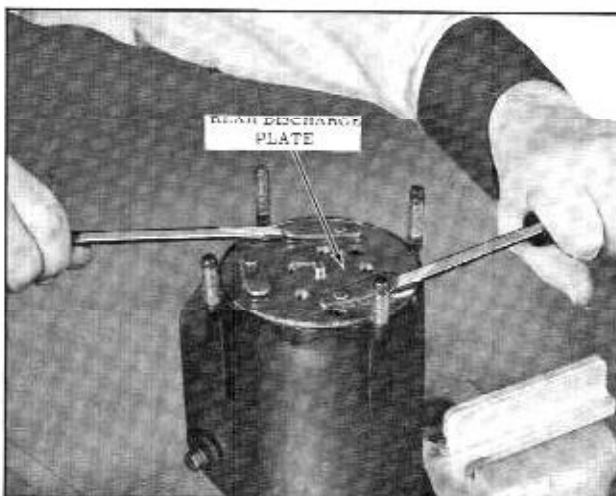

Fig. 14-41 Removing Rear Discharge Plate
7. Remove the rear discharge valve plate and reed valve assembly. Separate the discharge valve plate and reed valve and inspect. (Fig. 14-41)